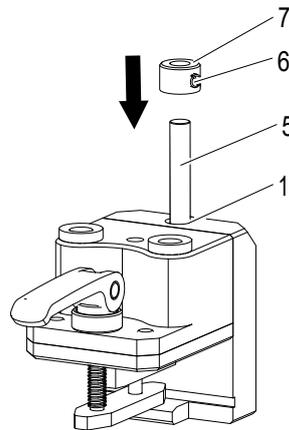
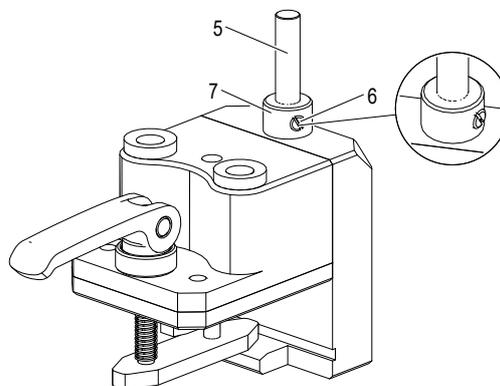
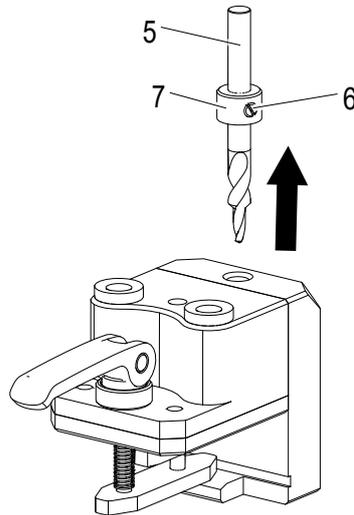

Fig. 102: Fix the step drill using the adjusting ring
Fig. 103: Tighten threaded pin (6)
Fig. 104: Remove step drill (5) with tightened adjusting ring (7) from drilling hole.
- Attach the stop ring to the step drill M3 90° (see Fig. 102 to Fig. 104).
- Place the adjusting ring (7) with the threaded pin (6) over the step drill (5).
- Tighten the threaded pin (6) (see Fig. 102 and Fig. 103).
- Remove the step drill (5) from the drill hole (1) with the adjusting ring (7) and threaded pin (6) tightened (see Fig. 104).